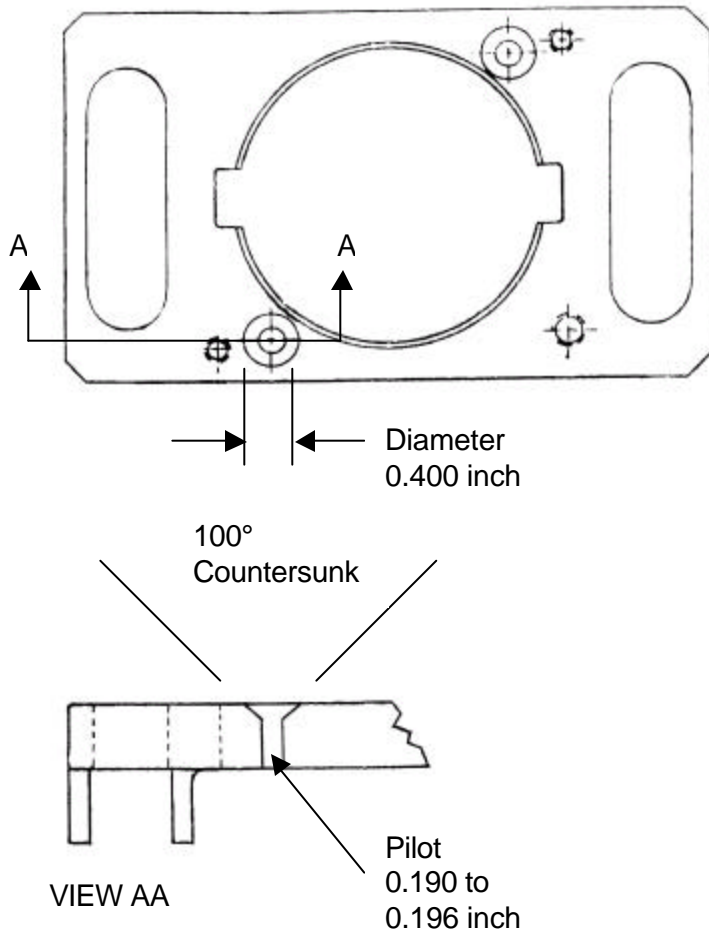

Figure 1 Support 206-010-191
1. Using a press drill and a 100° countersink bit with a 0.190 to 0.196 inch diameter pilot, machine the countersink as shown in figure 1.